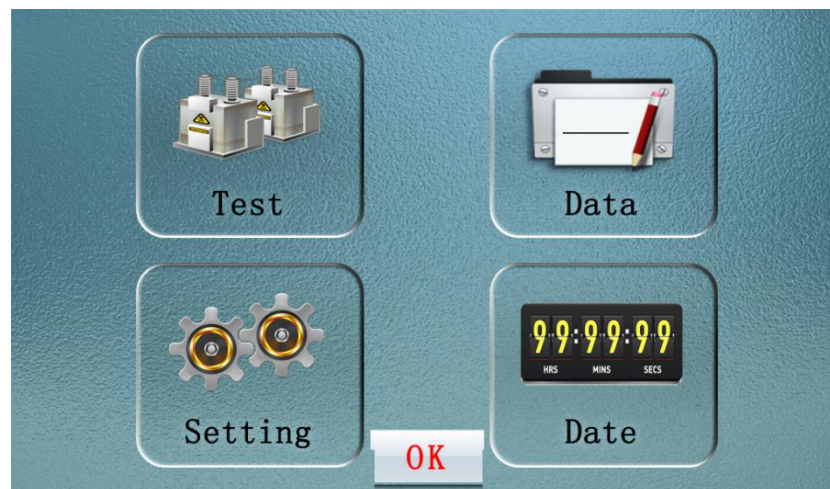

Figure 1
- 1、The boot interface is shown in figure 1:
5、Click "parameter setting" in figure 1 to enter the "parameter setting" interface, as shown in figure 5:
6、Click "clock modification" in figure 1 to enter the clock modification interface, as shown in figure 6: